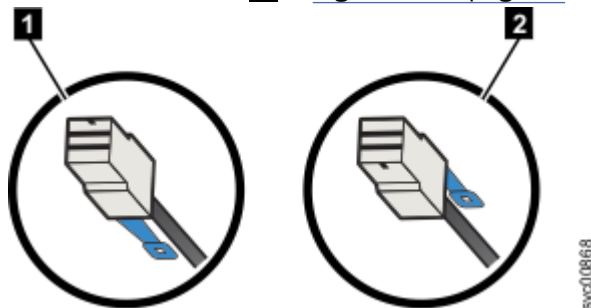

Figure 59. SAS cable connector orientation
When you insert SAS cables, make sure the connector (Figure 59 on page 98) is oriented correctly.
- For FlashSystem control enclosure node canisters and 2U expansion enclosures, the blue pull tab must be below the cable (**1** in Figure 59 on page 98).
- For 5U expansion enclosure canisters, the blue pull tab must be above the connector (**2** in Figure 59 on page 98).